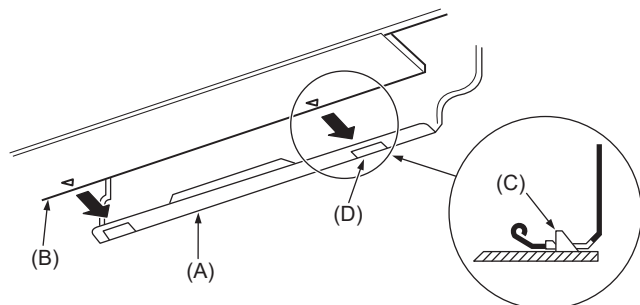

Fig. 3-15
3. While inserting the refrigerant piping and drain hose into the wall penetration hole (penetration sleeve), hang the top of the indoor unit to the mount board (1).
5. Fasten by pushing the bottom part of the indoor unit onto the mount board (1). (Fig. 3-15)
- * Check that the knobs on the bottom of the indoor unit are securely hooked into the mount board (1).